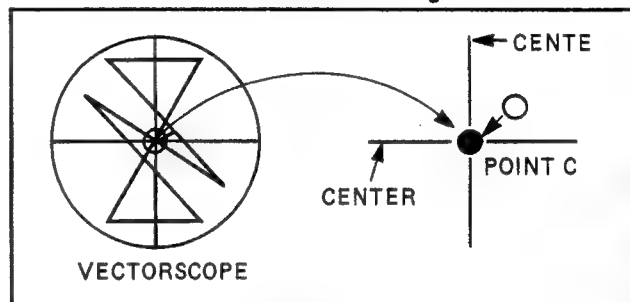

Figure E19
SPEC	REFER TO FIG E19
5. Adjust VR3302 and VR3303 so that the point "C" becomes center as shown in Figure E19.